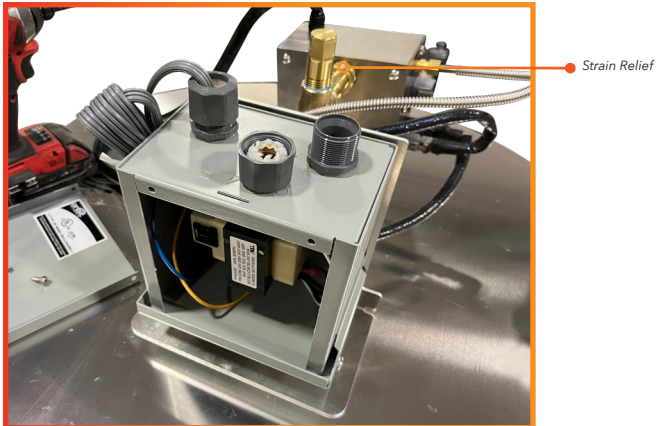

Figure 15: Loosening the Knob
- 5.3 On the bottom of the transformer unit, there are two large gray strain reliefs. One has a pigtail coming out of it to connect to the power supply and the other is empty. **{See Figure 15}** Loosen the empty strain relief and remove the cap.